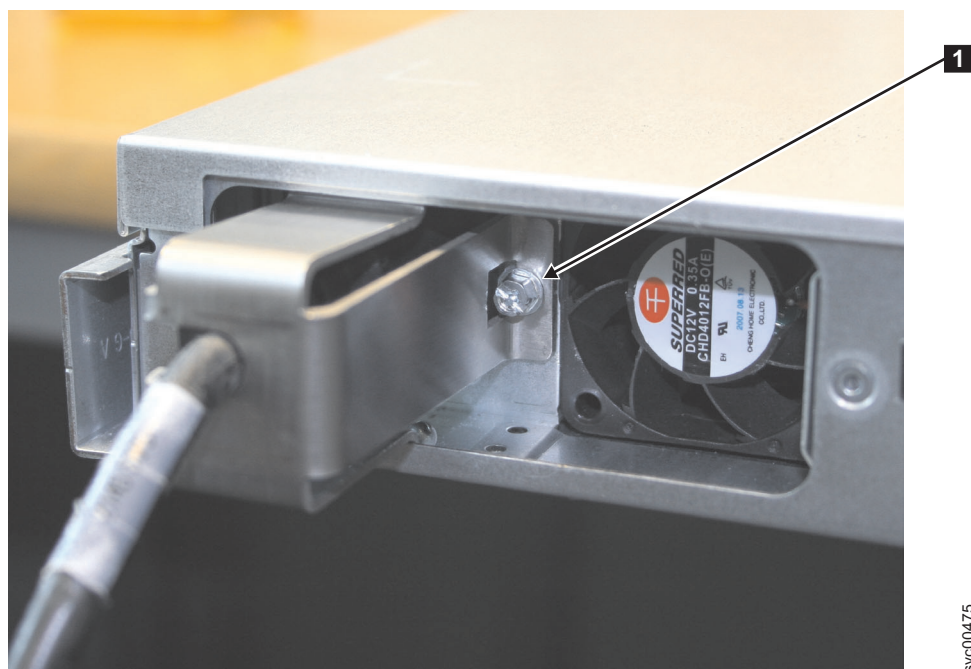

Figure 19. SAN Volume Controller 2145-8A4 with the cable-retention bracket installed
1. With the node turned off, unscrew the retaining screw **1**, shown in Figure 19, half a turn, but do not fully loosen or remove it.